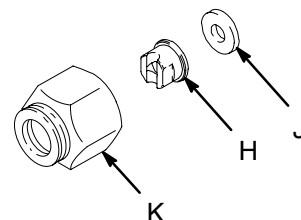

Fig. 6
2. Install the spray tip (H) and the gasket (J) in the tip retainer nut (K). Screw the assembly firmly onto the gun. Tighten the assembly with a wrench. See Fig. 6.